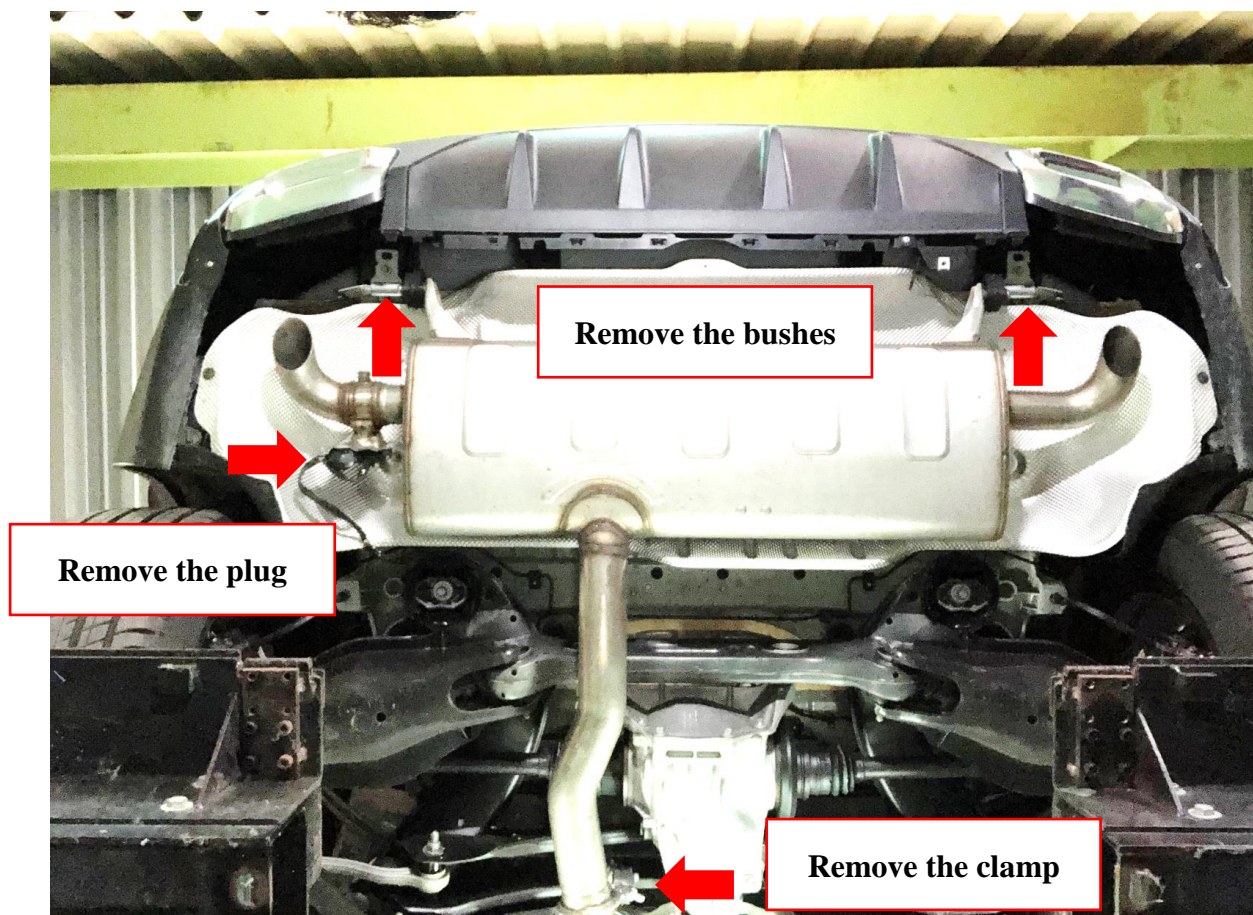

Fig. 1
2. Remove the clamp and bushes at the connection between the rear pipe of the muffler and the mid pipe, and then move it forward to remove the rear section of the muffler. (Fig.1)